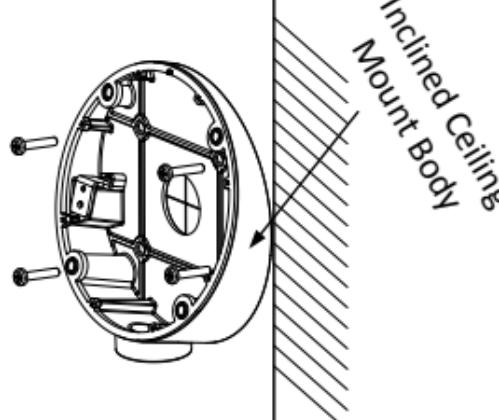

Figure 2-8 Fix the Inclined Base Body
- Install the inclined ceiling mount's body on the ceiling/wall with four PA4 × 25 screws, as shown in Figure 2-8.